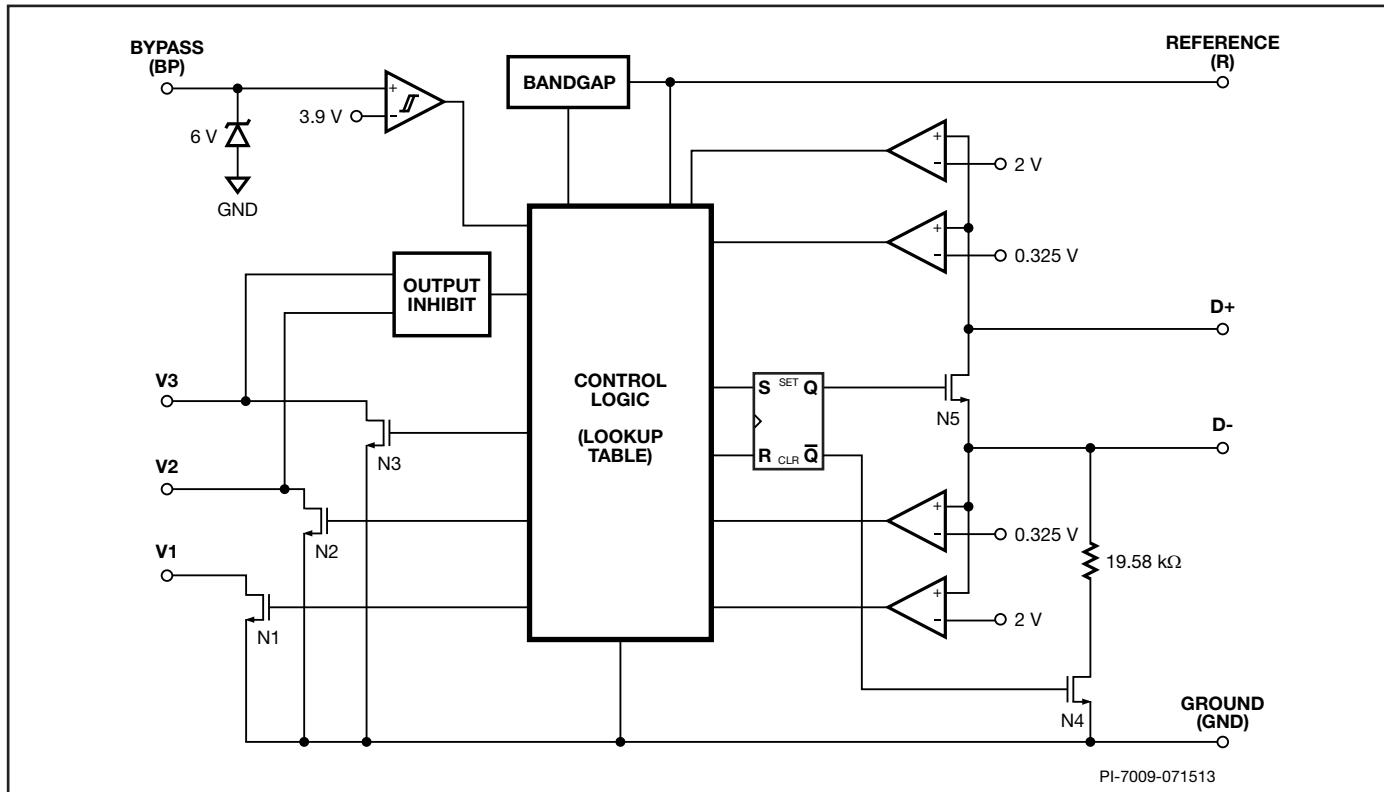

Figure 3. Functional Block Diagram.
At power-up CHY100 turns on switch N5 (see Figure 3) in 20 ms or less after the BYPASS pin voltage has reached 4 V. Switch N4 and output switches N1 to N3 remain off. This sets the default 5 V output voltage level. With D+ and D- short-circuited the normal handshake between the AC-DC adapter (DCP) and powered devices (PD) as described in the USB Battery Charging Specification 1.2 can commence. After switch N5 has been turned on CHY100 starts monitoring the voltage level at D+. If it continuously stays above  $V_{DAT(REF)}$  (typ. 0.325 V) and below  $V_{SEL(REF)}$  (typ. 2 V) for at least 1.25 seconds CHY100 will enter Quick Charge 2.0 operation mode. If the voltage at D+ drops any time below 0.325 V CHY100 resets the 1.25 seconds timer and stays in USB Battery Charging Specification 1.2 compatibility mode with a default output voltage of 5 V.